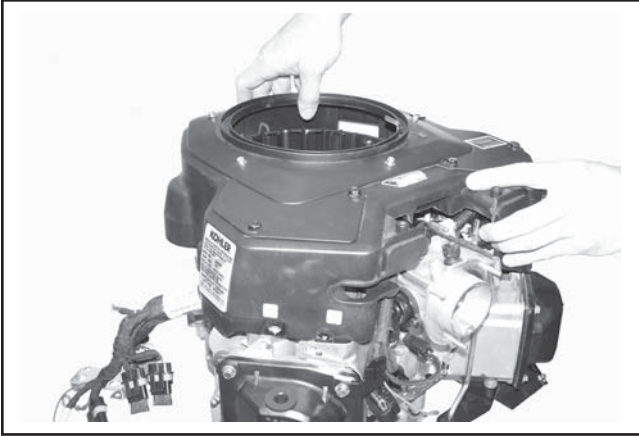

Figure 8-31. Removing Blower Housing.
6. Remove the remaining hex flange screws securing the blower housing. Remove the blower housing. See Figure 8-31.